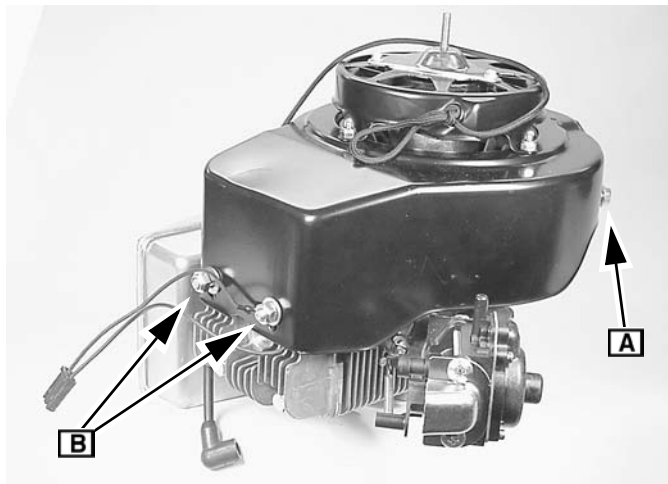

Fig. 17
2. Remove the two screws **A** that attach the shroud to the base (Figure 17).
3. Remove the nuts and washers **B** from the studs (Figure 17).